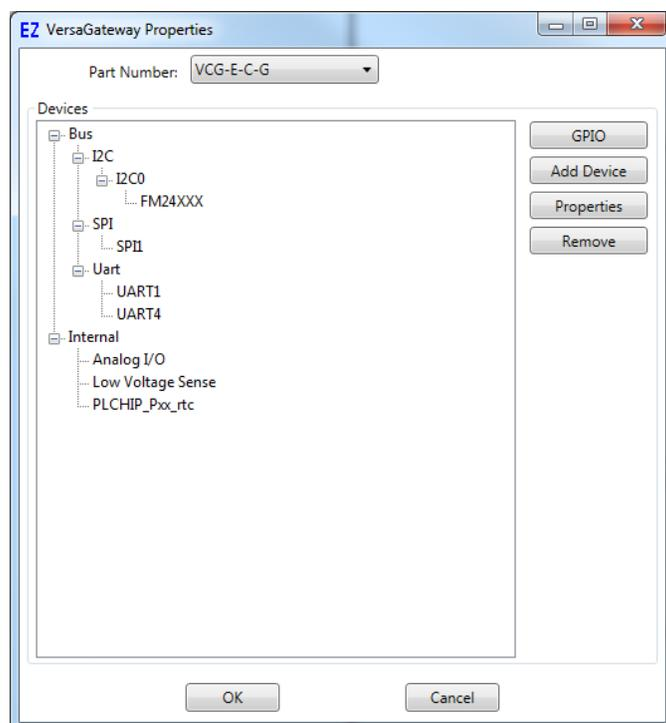

Figure 1-2 - VersaGateway Properties Window
3. Using the Drop-down Part Number select box, select the model of the Versagateway from the choices. Refer to Figure 1-2. With the model selected, the Devices pane will update with the currently selected features for the VersaGateway. The **ADD DEVICE** button is used to install and configure additional features such as Modbus or J1939 that are not automatically loaded and configured. For this example, we will not add additional features at this time. These features may be installed and configured by re-visiting this window.